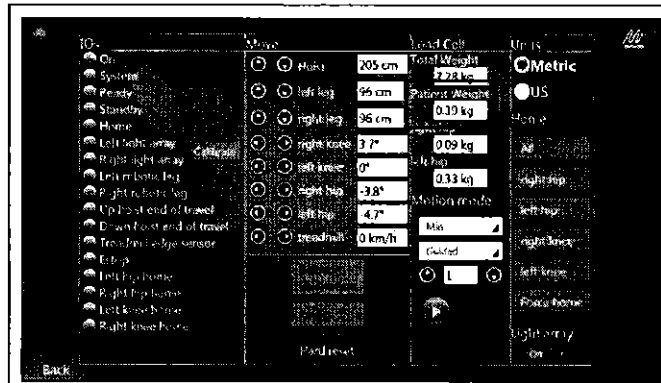

Figure 4.1: Enter technician and check the Patient Weight value
4.1.1 Verify that the Patient Weight (see figure 4.1) value (in the load cell section) is between ± 1 kg when the hoist isn't loaded at all.